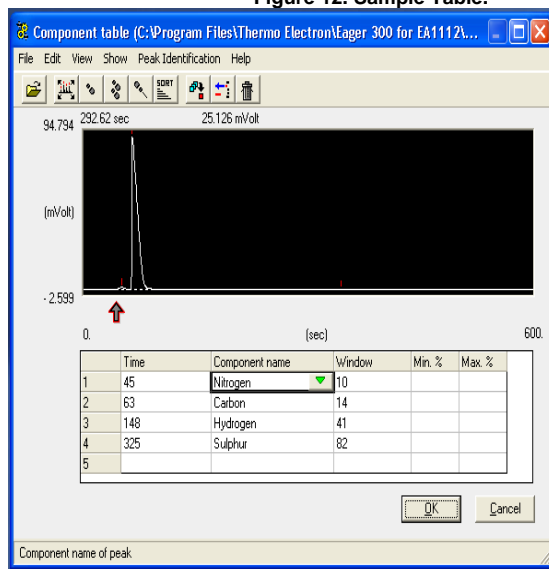

Figure 13. Component Table.
1. After the **Bypass** sample is done, select **Edit > Component table** to identify the analysis peaks (*Figure 13, below*). Instructions for editing the component table are given in the Eager 300 Software Operating Manual, p. 101–115.
**Warning:** If peak retention times have changed a lot, measure an additional **Bypass** sample to confirm the new peak positions. Possible causes of peak retention time shifts include (1) gas leaks (include outside of the instrument), (2) gas flow changes, (3) atmospheric pressure changes, and (4) others.